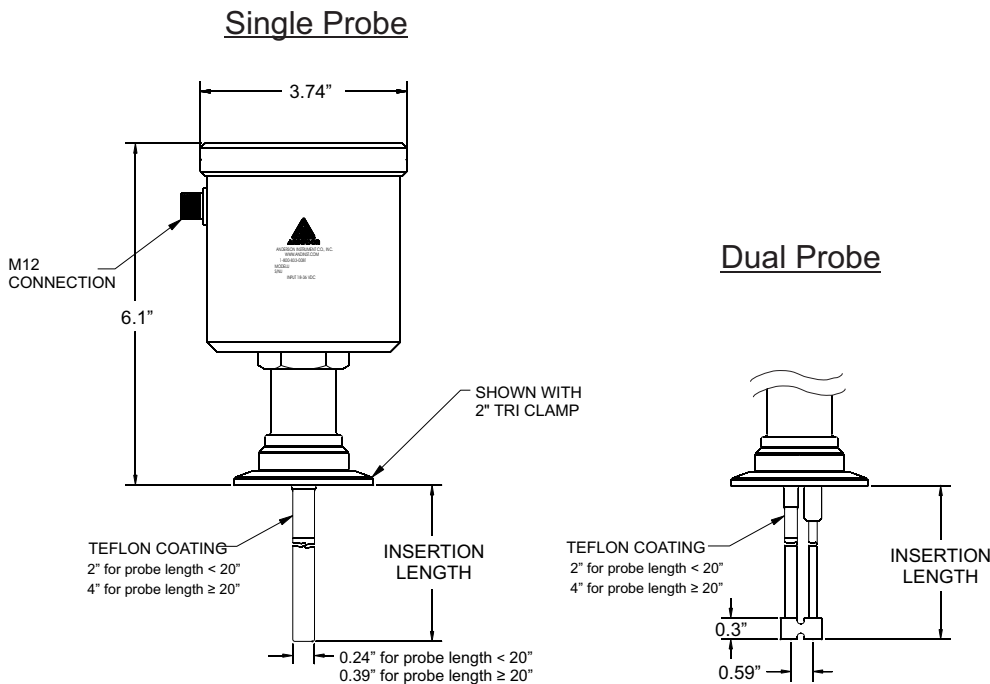

Figure 1
3. Fill vessel until level contacts probe. Adjust OFFSET until signal output is 4.0mA (see Fig. 1).
3. Fill vessel until maximum level desired. Adjust SPAN until signal output is 20.0mA (see Fig. 1).